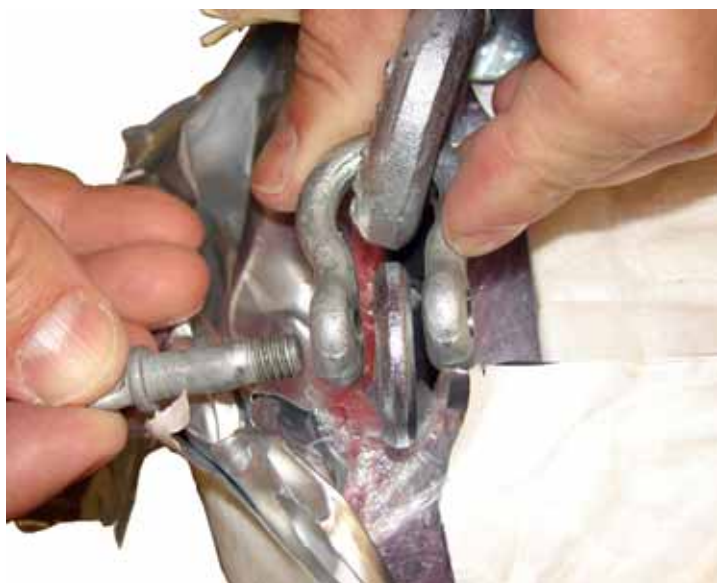

Figure 3-19. Attaching Eyebolts to Spreader Bar
13. Using the shackles provided, latch both eyebolts to the spreader bar as shown in Figure 3-19. Fully tighten the shackle pin.
18. Using the necessary personnel, remove and carefully set the laser equipment on a clean and flat surface, such as an optical table (Figure 3-19).